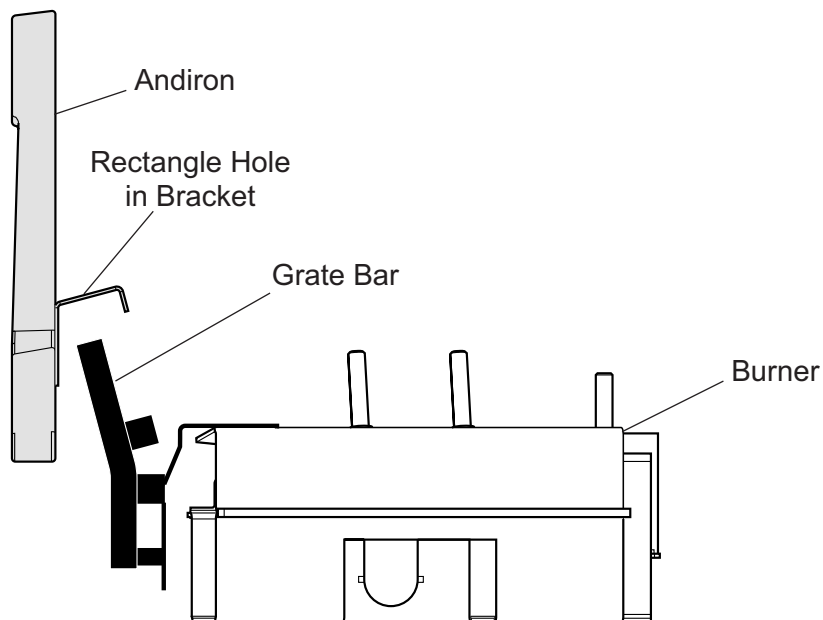

Figure 45 - Installing Andiron
3. Line up the rectangle hold on bracket with grate bar. *See Figure 45.*